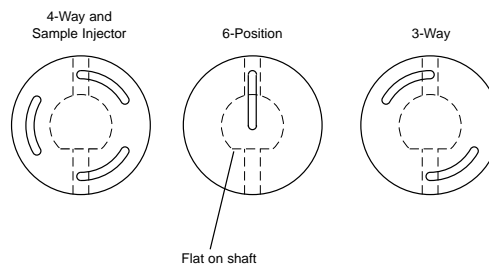

Fig. 3. Orientation of rotor on shaft as viewed from rotor face.
- Place the new rotor on the shaft and slip the rotor pin in place. See Figure 3 for the correct orientation of the rotor.